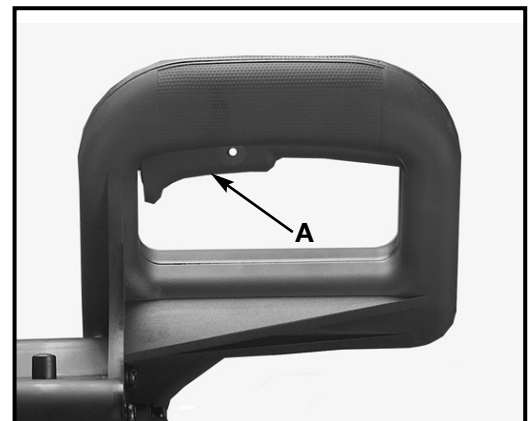

Fig. 10
To start the machine, depress switch trigger (A) Fig. 10. To stop the machine, release the switch trigger.
This saw is equipped with an automatic electric blade brake. As soon as the switch trigger (A) Fig. 10, is released, the electric brake is activated and stops the blade in seconds.
⚠ WARNING A TURNING SAW BLADE CAN BE DANGEROUS. AFTER COMPLETING CUT, RELEASE SWITCH TRIGGER (A) FIG. 10, TO ACTIVATE BLADE BRAKE. KEEP CUTTINGHEAD DOWN UNTIL BLADE HAS COME TO A COMPLETE STOP.